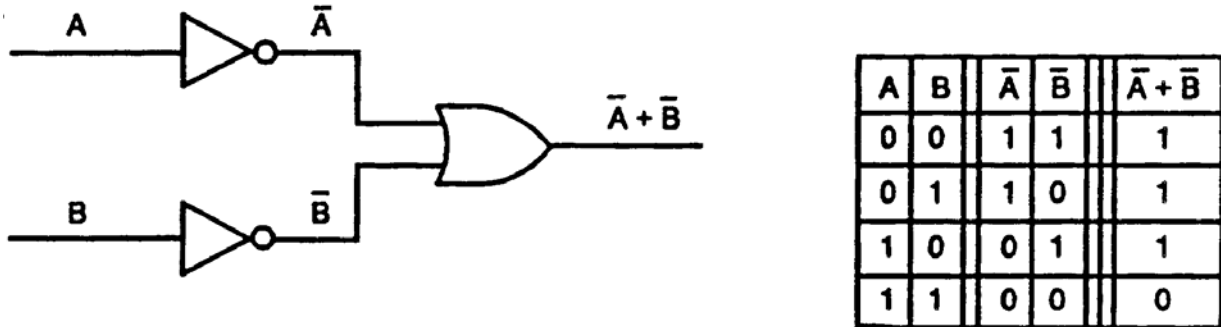

Figure Q-11. NAND Gate
(1) Nothing has changed except the outputs, which are inverted. There are two ways of constructing this gate with AND, OR, and NOT gates.
(2) The first is to invert the inputs and feed them into an OR gate as shown in Figure Q-11.